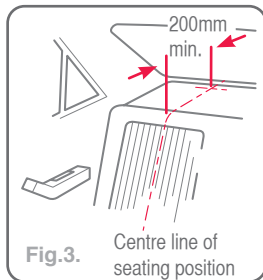

Fig.3.
**For Sedans only** - Drill 9mm diameter hole in the parcel shelf on the centre line of the seating position as shown in Fig 3. Before drilling the hole, check the underside for accessibility. Install the attachment bolt as shown in Fig 2. It is recommended that this installation be carried out by a child restraint fitting station or licenced motor mechanic.